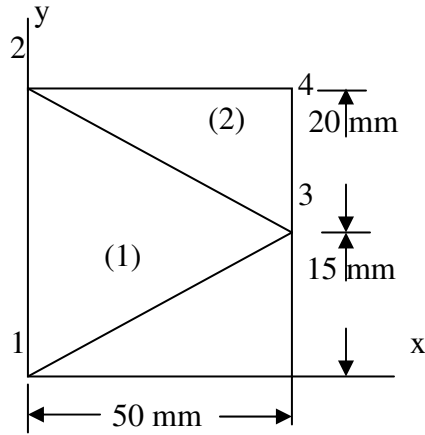

Figure: 2
5. For the two element plate shown in Figure: 2. Determine the B Matrices for the two elements. Determine the element stiffness matrices if thickness $t = 10\text{mm}$, the material is aluminum with Young's Modulus $E = 70\text{ GPa}$, and Poisson's ratio, $\nu = 0.33$. Assume Plane stress Condition. [16]